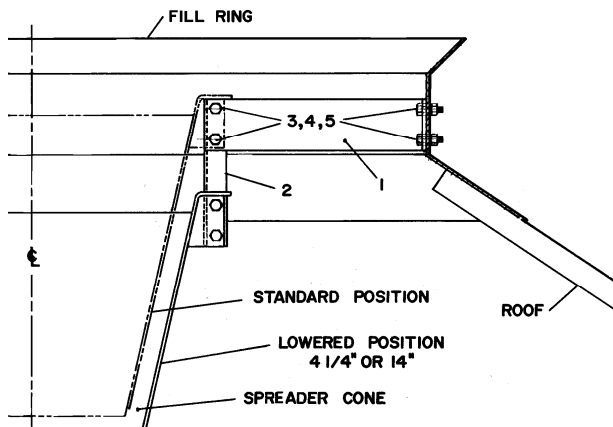

Fig. 5 – Sioux bracket
3. Use optional vertical brackets if required. If pre-spread funnel is used, use longer vertical brackets. See Fig. 5.